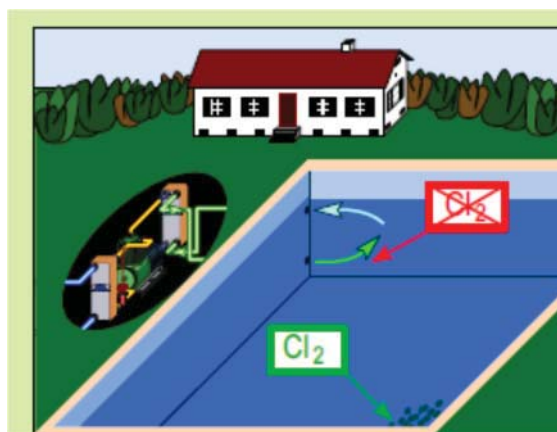

Figure 103: Notes concerning plate heat exchangers
- Never install the chlorination in front of the water inlet of the plate heat exchanger. The chlorination should be as far away from the plate heat exchanger as possible (see **Figure 103**).
- The water inlet should be close to the surface and the outlet near to the bottom. This improves the mixing of the heated water and mainly prevents the entrance of chlorine particles or concentrated solution into the plate heat exchanger (see **Figure 103**).